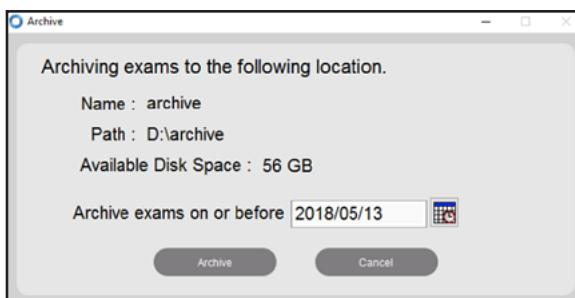

Figure 3-37 Archiving Dialog Window
- 17.2.3 Click the **Start Archiving** button. The dialog window shown in **Figure 3-37** is displayed.